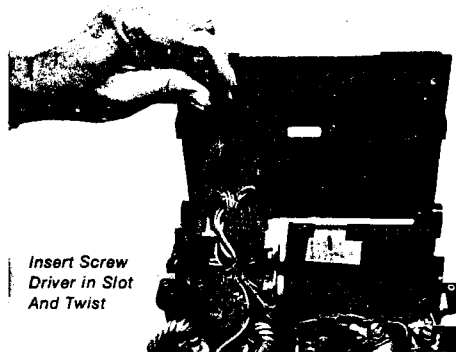

Fig. 12.
- d. Jack out the bottom plug with a screwdriver as shown in Fig. 12.